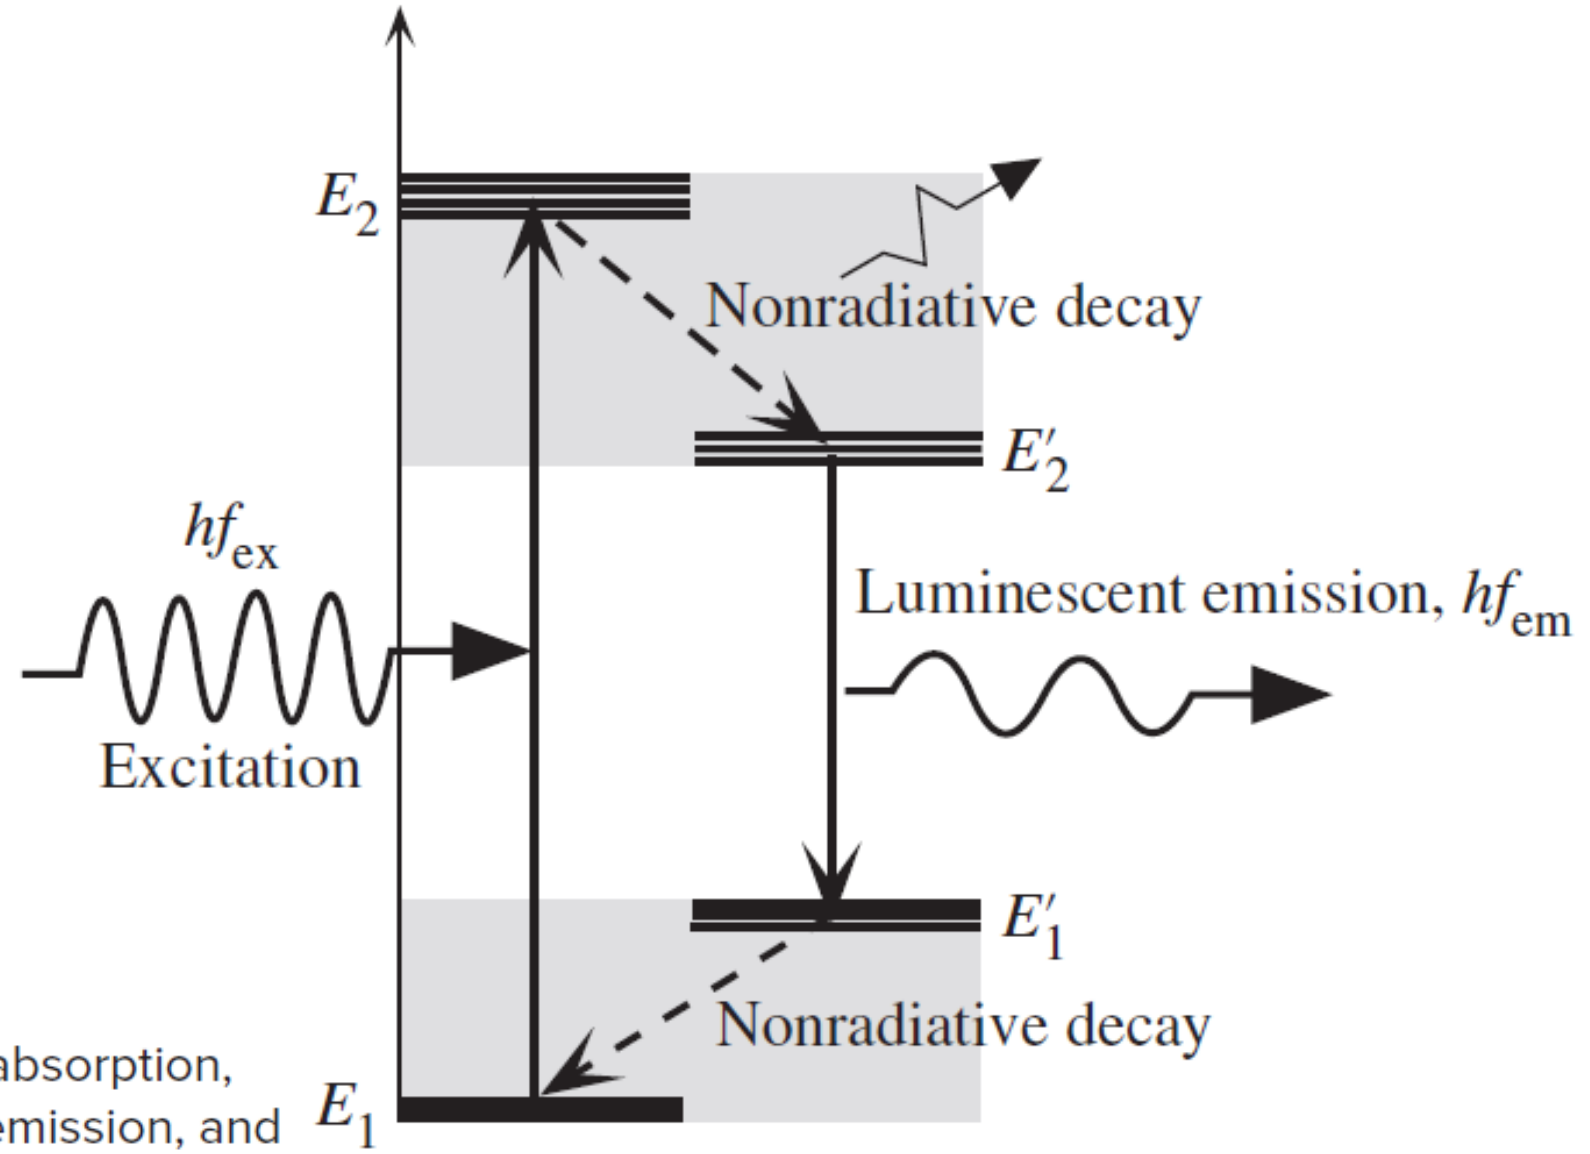

Figure 9.28 Photoluminescence: light absorption, excitation, nonradiative decay and light emission, and return to the ground state E_1 .
- In very general terms, we can represent the **energy of an activator in a host matrix by the highly simplified energy diagram in Figure 9.28.**
There are many phosphors in which the excitation involves the host. **In host excitation**, the host matrix absorbs the incident radiation and transfers the energy to the activator, which then becomes excited to E_2 in Figure 9.28, and so on.